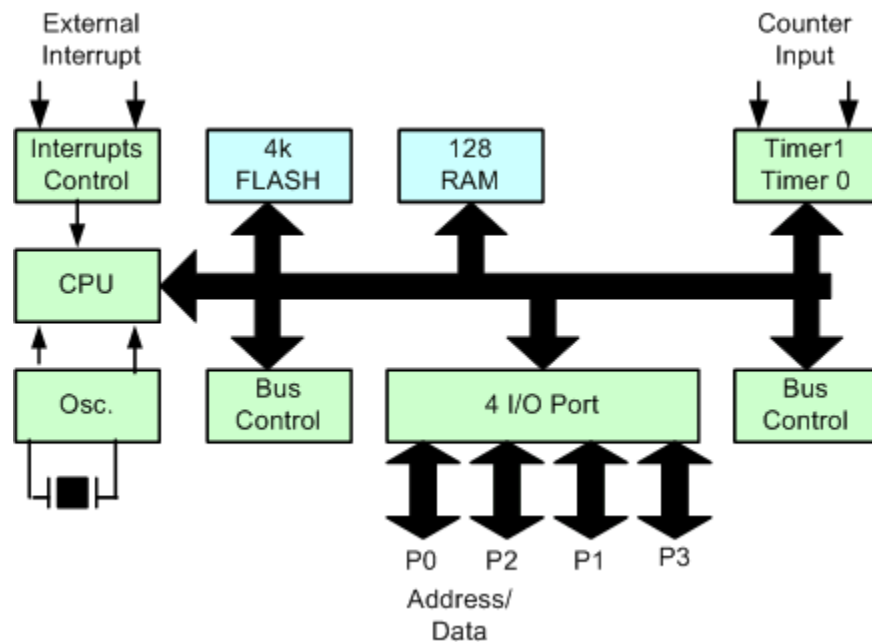

Figure 3: Block Diagram of a Microcontroller
A microcontroller is a small computer located on a single integrated circuit (IC) containing a processor, memory, and input/output options. Figure 3 shows a basic block diagram